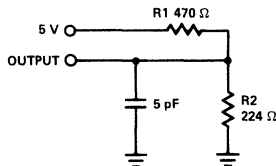

Figure 1b
8. Transition is measured at steady state HIGH level - 500 mV or steady state LOW level + 500 mV on the output from 1.5V level on the input with load shown in *Figure 1b*.